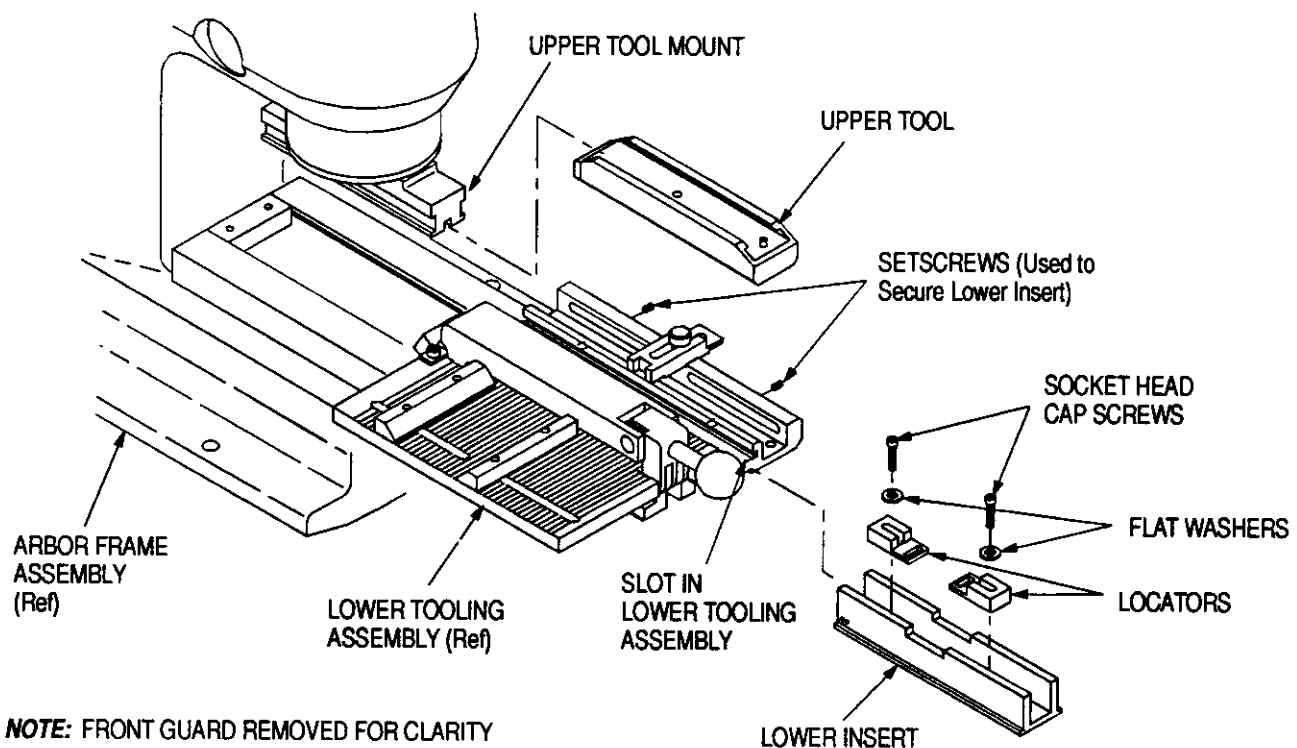

Figure 2
1. Slide upper tool onto upper tool mount, as shown in Figure 2.
2. Slide lower insert into the slot of the lower tooling assembly. Using a 0.38 [.015] feeler gage, center the lower insert in the slot. Insert the gage into the slot and position it against the pin. Slide the lower insert into the slot until it is positioned against the gage. When the lower insert is properly positioned, secure it with the two setscrews. See Figure 2.
3. Install the locators onto the tooling and secure them with the flat washers and socket head cap screws, just enough to hold them in place. See Figure 2.
- Removed Figure 2 in Section 3 and renumbered all figures thereafter
- Added Flat Washer 21055-4 to Figures 2 and 4
- Removed callouts for position locator from Figures 2 and 3